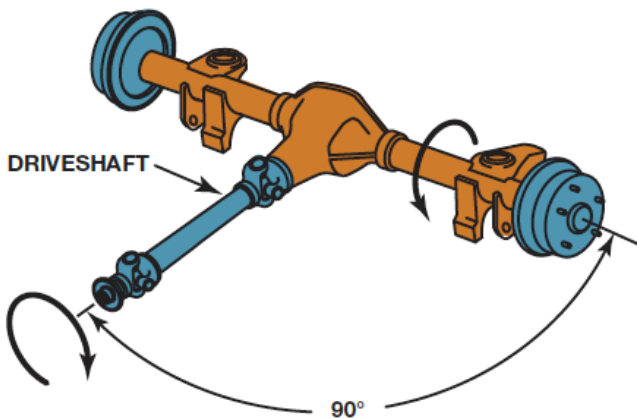

Figure 1. The drive axle assembly changes the direction of engine torque and increases the torque to the drive wheels.
1. Changing the direction of engine torque—This is achieved using a ring and pinion gears. Figure 1.